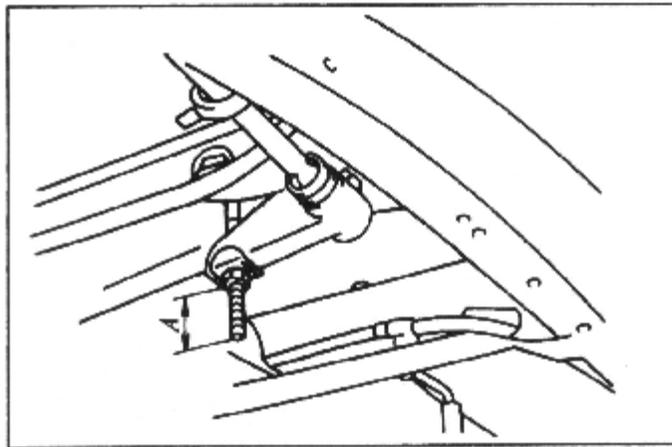

Figure 10-7-4 Measurement of Length of Bolt A
① Check front suspension: compress and extend the shock absorber, check for abnormal resistance or working sounds. If any, replace with a new shock absorber.
② Repair torsion bar spring: make fitting marks on torsion bar spring, torsion arm and fixed arm; measure the length of extended bolt end A as shown in figure 10-7-4. The value of which will be a reference when adjusting height of the vehicle; there are left and right index marks at rear end of torsion bar spring. Do not install it to opposite direction.